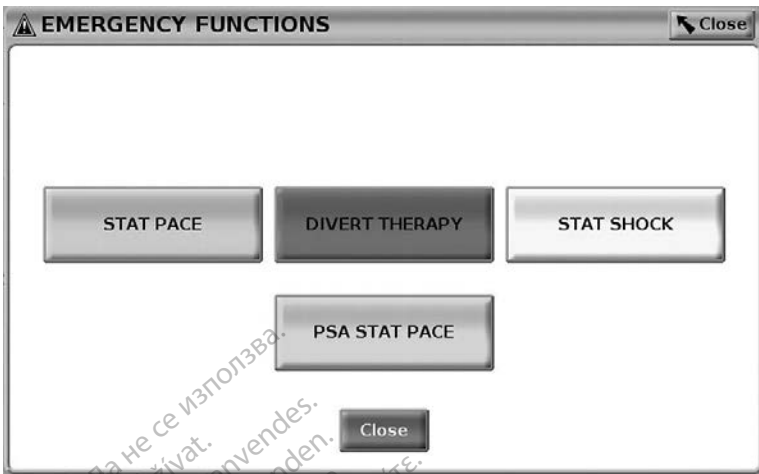
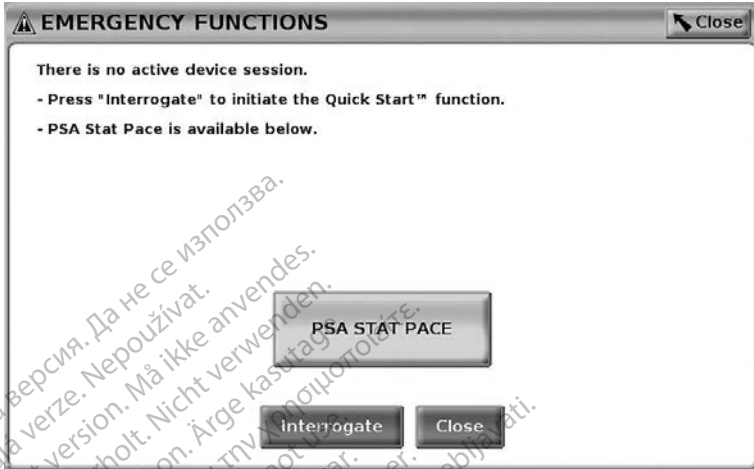

Figure 20. Red STAT Button pop-up in a High Voltage transvenous PG session with the PSA application running
Figure 22. Red PSA STAT PACE Button Pop-up outside any PG session with the PSA application running
The red STAT button, , is at the top right of the Model 3300 Programmer to provide a rescue shock or pacing. The STAT function is available in the same location at all times to initiate a PSA STAT PACE or deliver a rescue pace or shock. Pressing the STAT button displays the Emergency Function screen as shown in Figure 20 and Figure 22). Check the pulse generator labeling for specific details of the STAT parameters.
- When in telemetry communication with a high voltage (ICD or CRT-D) PG, a pop-up displays allowing the user to initiate a STAT PACE, STAT SHOCK, or DIVERT THERAPY command. If a PSA session is in progress, a PSA STAT PACE option also displays as shown in Figure 20 on page 30.
- When not in communication with a PG, an Interrogate button displays with text prompting the user to perform Quick Start to attempt to identify the device (see Figure 22 on page 31). Once in a session with an implanted transvenous device, press the red STAT button again to display available options.
In Figure 20, the top row buttons (STAT PACE, DIVERT THERAPY, and STAT SHOCK) display only during a High Voltage PG session. PSA STAT PACE displays when the PSA feature is active.
If in a PSA session only (no PG interrogated), then the dialog in Figure 22 displays along with the PSA STAT PACE button.